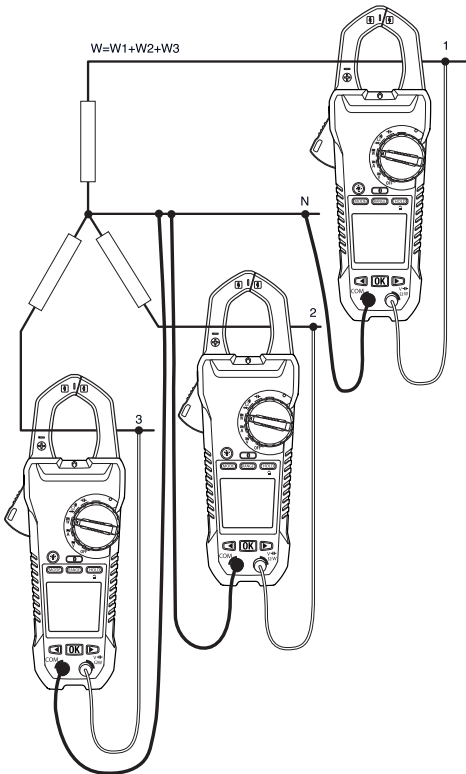

Figure 5.5 Three-phase four-wire measurements
The power of a three-phase four-wire configuration is measured in three steps, accordance with Figure 5.5. The total power is the sum of the three measurements: $W = W_1 + W_2 + W_3$
3. Take three measurements of the active power, in accordance with Figure 5.5.